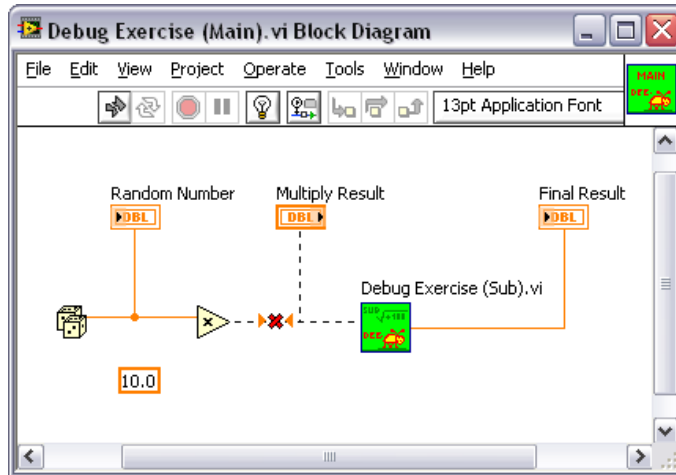

Figure 5-7. Debug Exercise (Main).vi Block Diagram
- Select **Window»Show Block Diagram** to display the block diagram shown in Figure 5-7.